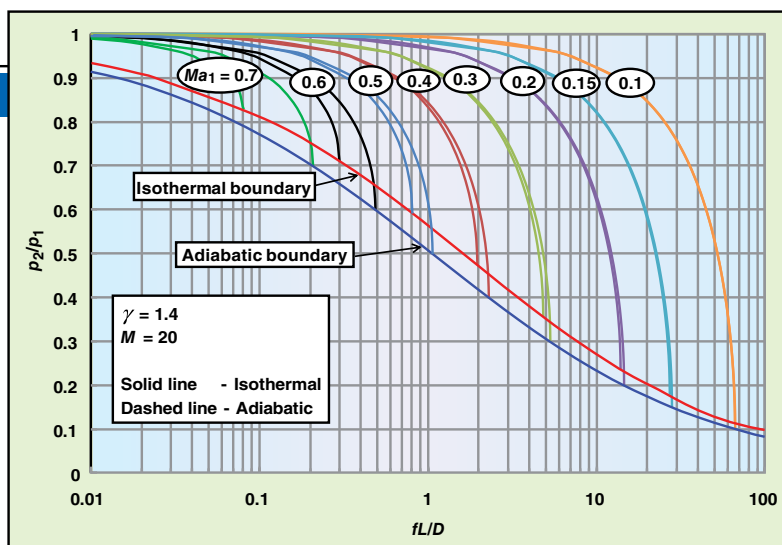
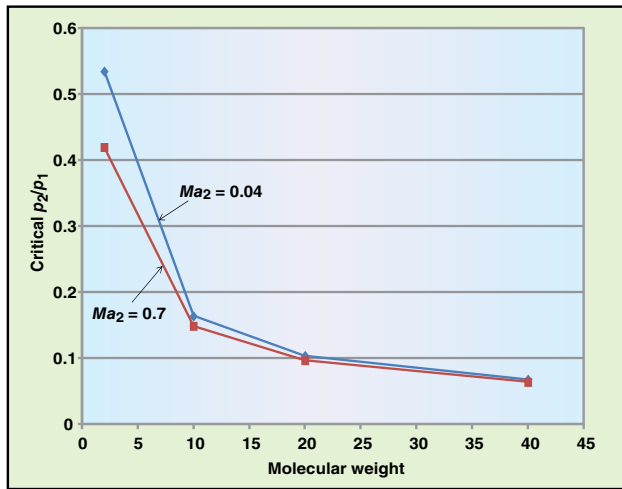

FIGURE 4. With known inlet conditions, adiabatic and isothermal fluid flow equations are compared
FIGURE 6. As molecular weight decreases, so does critical p_2/p_1
Scenario 1: known inlet conditions. With inlet conditions p_1 , v_1 , T_1 and Ma_1 known, outlet conditions p_2 , v_2 , T_2 (which is the same as T_1 for isothermal flow) and Ma_2 must be calculated. Using Equations (9) and (26), adiabatic and isothermal curves are plotted for p_2/p_1 versus fL/D in Figure 4, where the red and blue lines represent the boundary between subsonic and supersonic region. In Figure 4, it is notable that, at large Ma_1 values, the solid line is below the dashed line, which means that calculated p_2 values for isothermal flow are smaller than that for adiabatic flow at the same fL/D .
Overall, the isothermal flow equation is more conservative than the adiabatic equation in terms of pressure-drop calculations, because the solid line is below the dashed line in Figures 4 and 5 at most conditions.
However, the question arises as to whether isothermal flow is always conservative, even when the solid and dashed lines are visually inseparable. A careful look at Figures 4 and 5 finds that the answer is “yes” for known inlet conditions but “no” for known outlet conditions, in which the dashed line turns out to be above the solid line when p_2/p_1 decreases to a critical value. This critical p_2/p_1 value is found to be greatly dependent on the fluid's molecular weight, but not on specific heat ratio. As shown in Figure 6, critical p_2/p_1 continues to decrease with molecular weight. For hydrogen with a molecular weight of 2 and a specific heat ratio of 1.3, the adiabatic equation becomes more conservative (larger p_1) as p_2/p_1 drops below 0.53 when the outlet Mach number Ma_2 is 0.04.
So we may conclude that the temperature remains constant at a small inlet Mach number (Ma_1), even if the flow is adiabatic. Comparing Figure 7a and Figure 4, we can understand why the solid and dashed lines overlap each other when Ma_1 is less than 0.3.